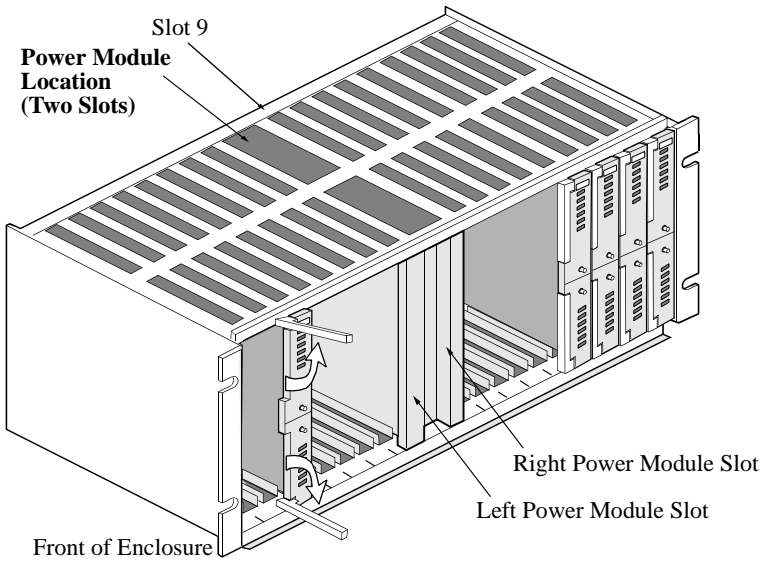

Figure 1-14. Dual DC Power Module Locations
2.	Remove the blank panel that covers the right power module slot by loosening the screws at the top and bottom (Figure 1-14).